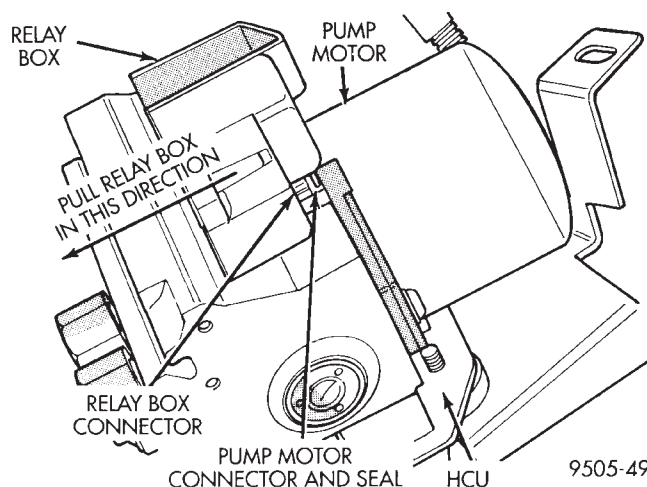

Fig. 27 Relay Box To HCU Electrical Connection
- (4) Grasp relay box with both hands. Without twisting or rocking, pull relay box away from pump motor housing until connector on relay box unplugs from the pump motor terminal (Fig. 27). **This is a tight connection, relay box will require a good amount of force to unplug it from the pump motor.**